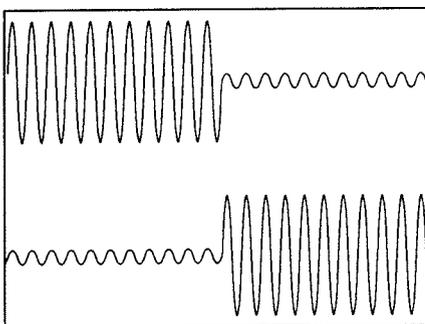

Figure 7. Minimum Crosstalk Results When This Display Appears On Dual-Trace Scope:
(E) Make sure all of the high frequency 15 turn trimpots are set fully COUNTER-clockwise. Connect a dual trace oscilloscope to the test points on the preamplifier marked "TP L" (Left channel), "TP R" (Right channel), and "TP GND" (Audio ground). Run a 100% alternating left/right STEREO ALIGNMENT film and move the cell in and out until the crosstalk is at a minimum on both channels as shown in Figure 7. It may be necessary to set the gain of the preamp roughly at this time.